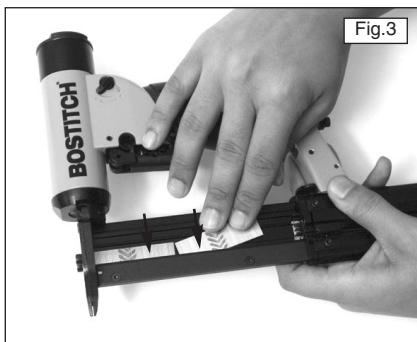

Fig.3
3. Load the stick of pins as shown in Fig.3 with the arrow pattern pointing down as shown. If pins have black dots instead of arrows, the dots should be positioned up.